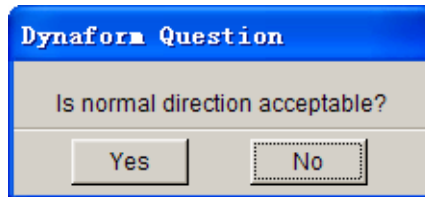

Figure 2.18: Dynaform question dialog box
3. An arrow displayed on the screen indicates the normal direction of the selected element. A popped up dialog box prompts “**Is normal direction acceptable?**”. See Figure 2.18.